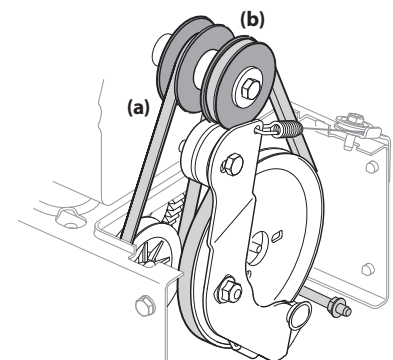

Figure 4-19
- Remove the drive belt (a) from around the engine pulley (b), and away from the unit. See Figure 4-19.
- Place the new drive belt (a) on the engine pulley. See Figure 4-19.